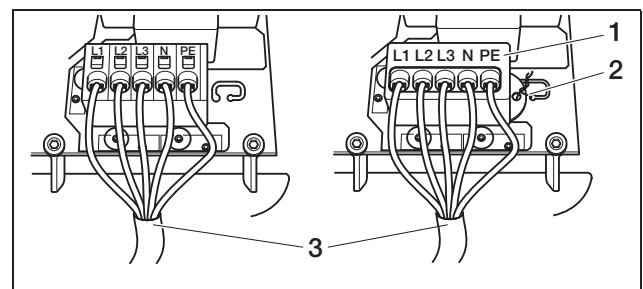

Fig. 15: Mains cable connected (left without sealing cap, right with sealing cap (illustration shows PIKO 7.0/8.3/10.1)
- Connect the conductors of the mains cable to the AC terminal in accordance with the labelling (figure 15).